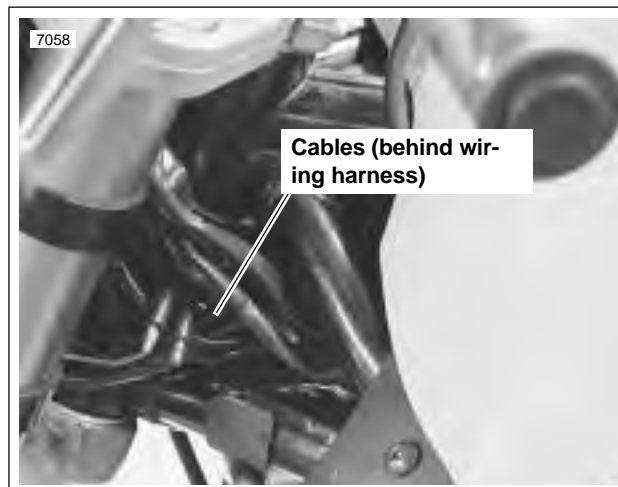

Figure 2-94. Steering Neck Routing
- b. See Figure 2-94. Continue between the left side of frame steering head and left frame tube. Cables should be above and to the left of the D-shaped washer behind the steering head.